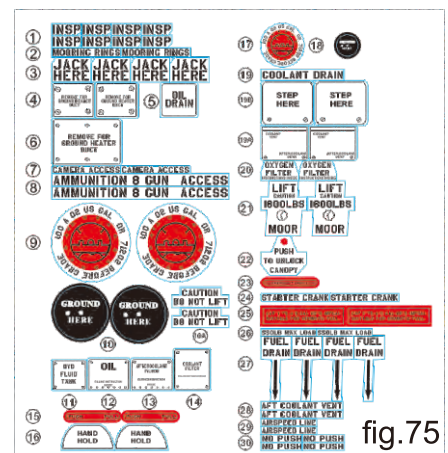

fig.75
- 9) Apply decals "P" (fig. 75) per the illustrated guide (fig. 76-77).